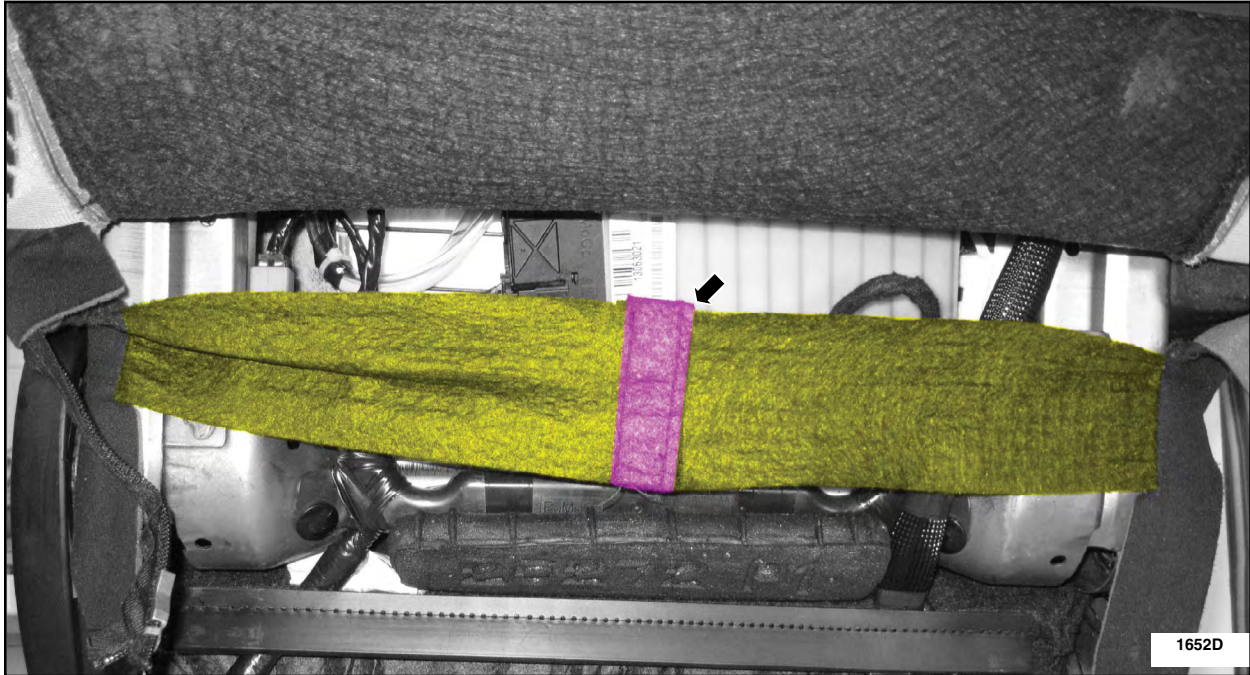

FIGURE 8
9. Detach the hook-and-loop retainer and position the backrest cover strap aside. See Figure 8.